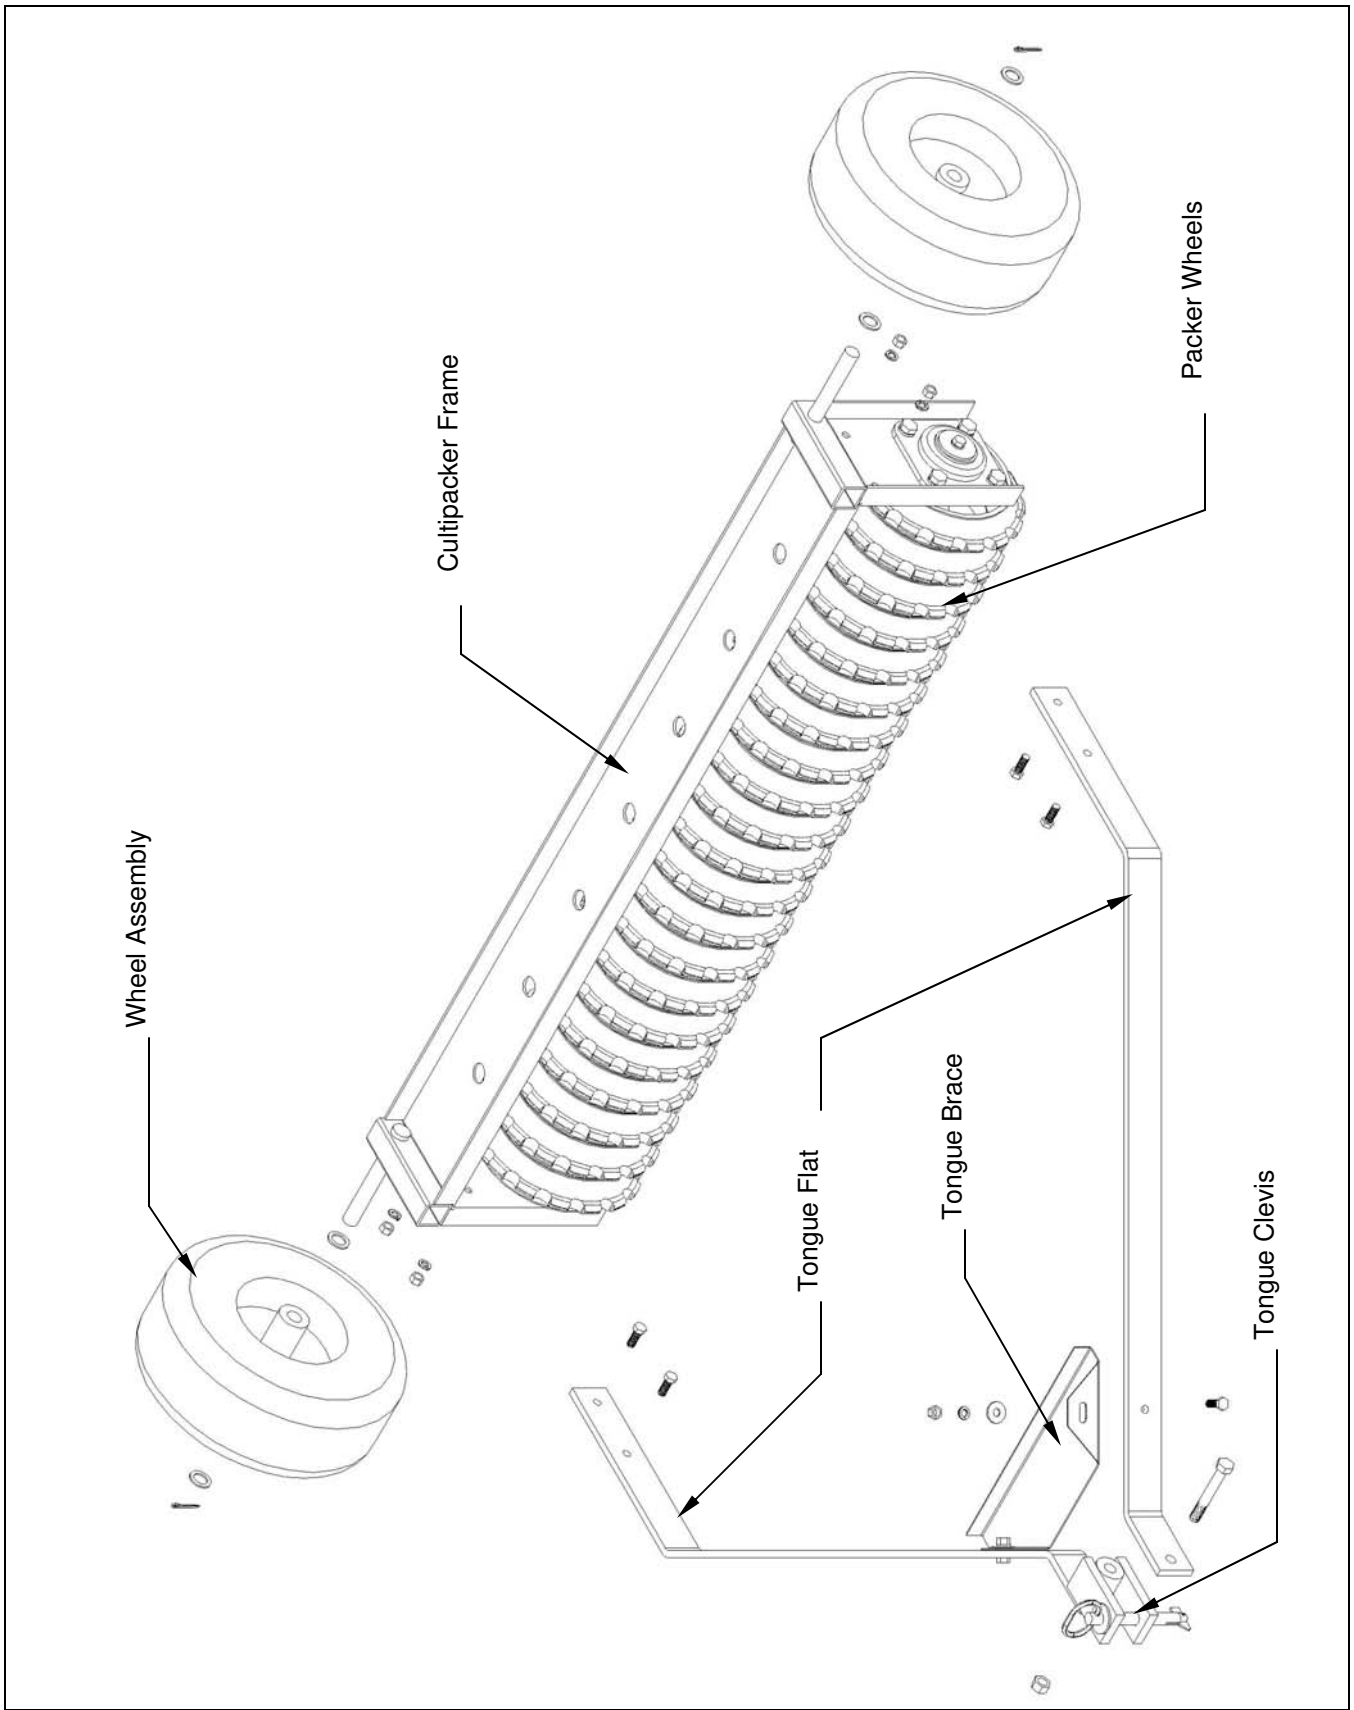

Figure 1. – Tongue and Wheel Assembly
ASSEMBLY OF TONGUE AND WHEELS (See Figure 1)
2. Attach the two tongue flats to the cultipacker frame using the hardware previously removed. Be sure to place the tongue flats on the frame so that the wheel axles are to the rear. (See Figure 1) Do not tighten the bolts in this step.